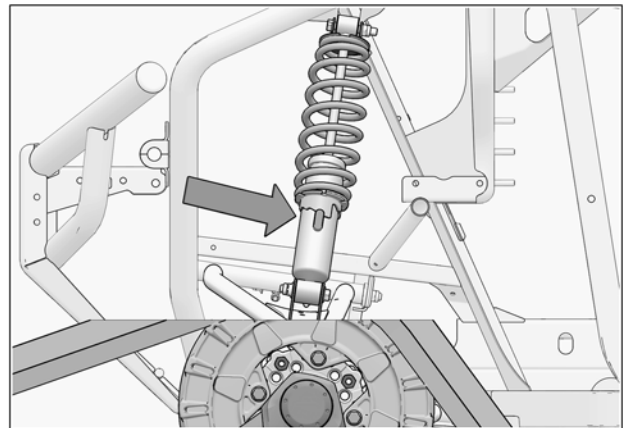

Fig. 20
1. Verify the suspension settings. If the shock absorbers are adjustable, adjust them to the stiffest setting to allow for maximum clearance between the System and the vehicle's fenders. See Fig. 20